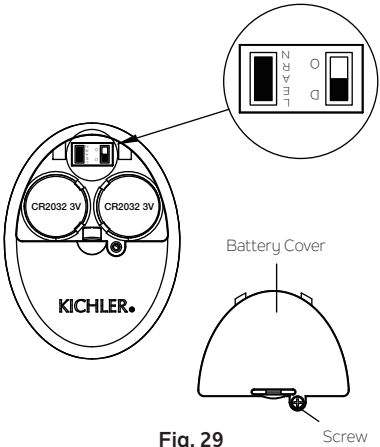

Fig. 29
Otherwise the remote control will not work. To perform this process manually, follow steps below: After installing and wiring the unit, restore power to your fan, press and hold the LEARN key for 1-3 seconds, the fan will turn on at medium speed and light (if installed) will turn on. This confirms that the learning process have been completed. This operation must be completed within 30 seconds after restoring power to the fan. (Fig. 29)
NOTE: Ensure slide switch in battery compartment marked “D O” is set to “D” position. (Fig. 29)
Step 4. Replace the battery cover and tighten with screwdriver. (Fig. 29)